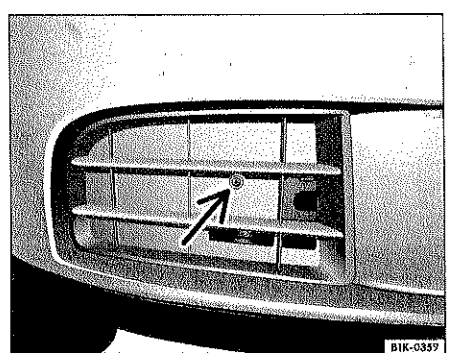

Fig. 50 In the right front bumper: removing the cover.
- Remove the Philips head screw ⇒ fig. 50 (arrow).